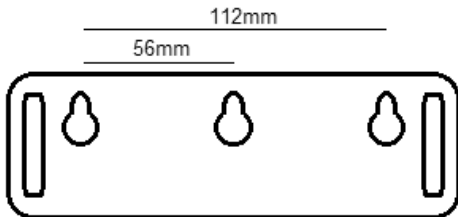

Fig. 1
- Remove the bracket from the rear of the box. Using the bracket as a template, mark the location for, and drill the fixing holes ensuring not to infringe with any gas/water pipes or electrical cables (see Fig. 1). Insert screws (not included) leaving the heads a little proud of the surface